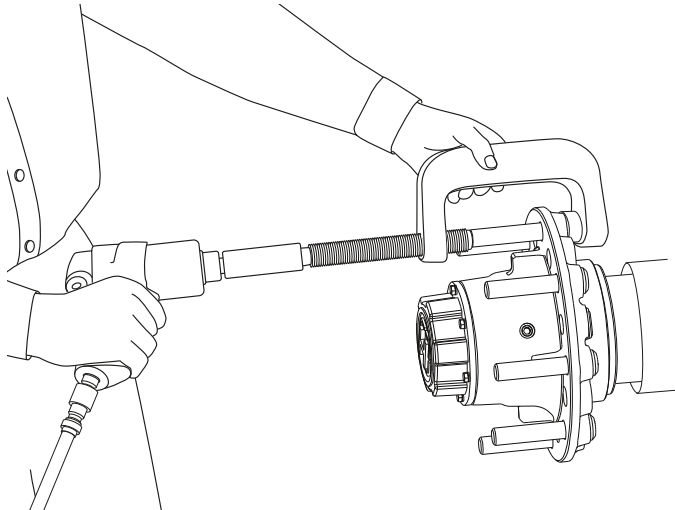

Figure 100: Using Stud Extractor
1. Use a stud remover to extract stud(s). Refer Figure 100.